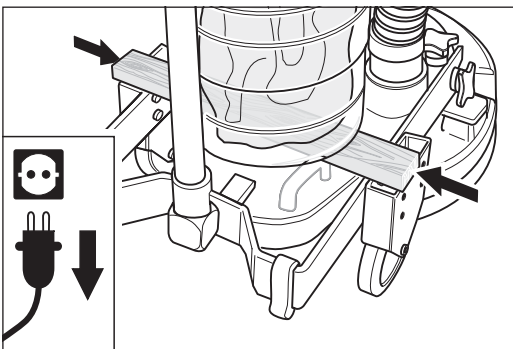

Fig. 66 Place a board between the closed dust bag box and the chassis.
- 6 Put a approx. 2 cm (0.8") thick board (e.g. piece of parquet flooring) between the closed dust bag box and the chassis (fig. 66) to prevent the dust bag box from falling off when the upper part of the separator is removed.